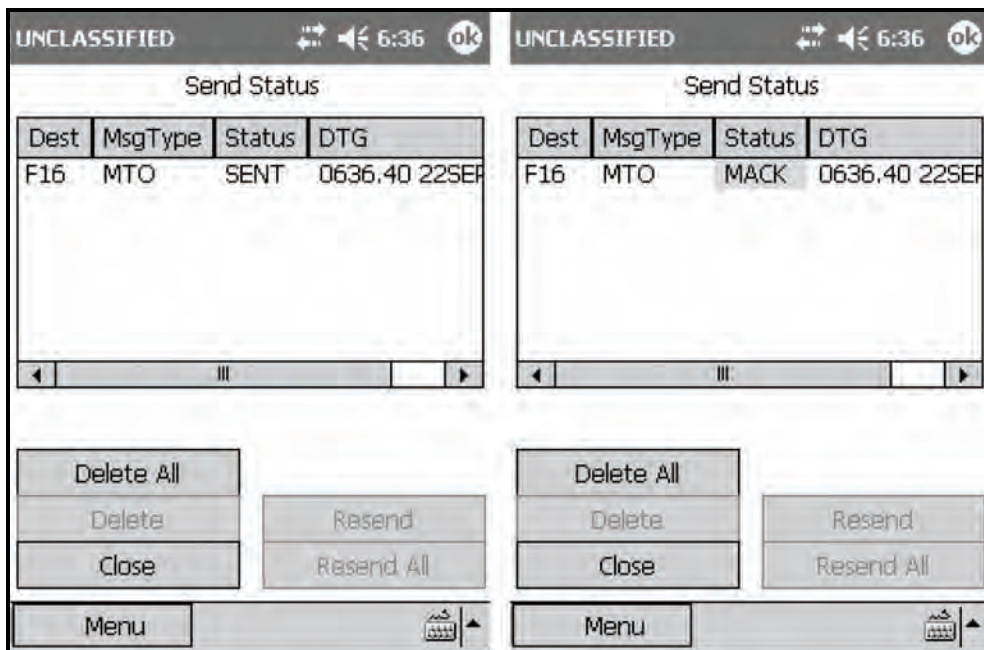

Figure 18-26. Digital Fire Mission: Message Send Status screens.
- (13) If there are no Errors or Warnings, record the gun and safety data on DA Form 2399-R.
- (14) Select MTO Accept.
- (15) The Send Status screen (Figure 18-26) displays.
Status	<p>This field displays the status of the message transmittal.</p> <p>The statuses include—</p> <ul style="list-style-type: none"> • SENT – The message has been received, but has not been read (Figure 18-26). • MACK (Machine Acknowledgement) – The message has been received and read (Figure 18-26). • RETRY – The message is being resent. The LHMBBC will attempt to resend the message twice before displaying a fault status of FAILED. • FAILED – The message failed to reach the intended unit. To resend the message, select it in the Message window, and then select RETRY. • QUEUED – The LHMBBC will attempt to send the message after the currently transmitting message has been sent or fails.